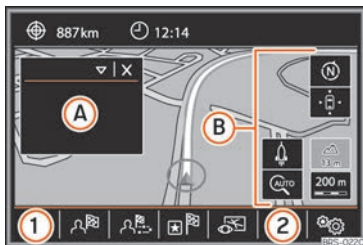

Fig. 224 Navigation main menu
- View** (📺) To modify or activate or deactivate the split screen »» Fig. 224 (A) »» page 221.